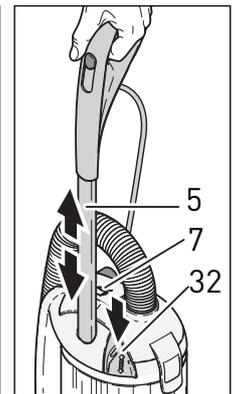

Figure 4
2. Adjust the telescopic handle tube (5) to the correct height by pulling out the handle release lever (32) and gently pulling the tube out to lengthen, or pushing it in to shorten. The tube will click into place when it reaches one of the three lengths available. Release the tab. If the tab does not fit snugly in place, the tube is set at an incorrect setting. Pull or push the tube until it locks into one of the three settings - see figure 4.
## Full Bag or Clog Indicator – Figure 4
When a full bag, a clog in the airflow pathway, or an excessively dirty microfilter is detected, an indicator gauge on the bag housing lid (7, figure 4) “fills” with orange color. The user should turn the switch off, unplug the machine and immediately insert a new bag or remove the clog (to remove a clog, refer to the Clog Removal section on page 12). If the airflow is still restricted, the “BAG FULL OR CLOG” indicator will again display orange to indicate a clog. If the clog is not removed, a bypass valve will open to allow more air into the motor compartment to keep the motor cool.